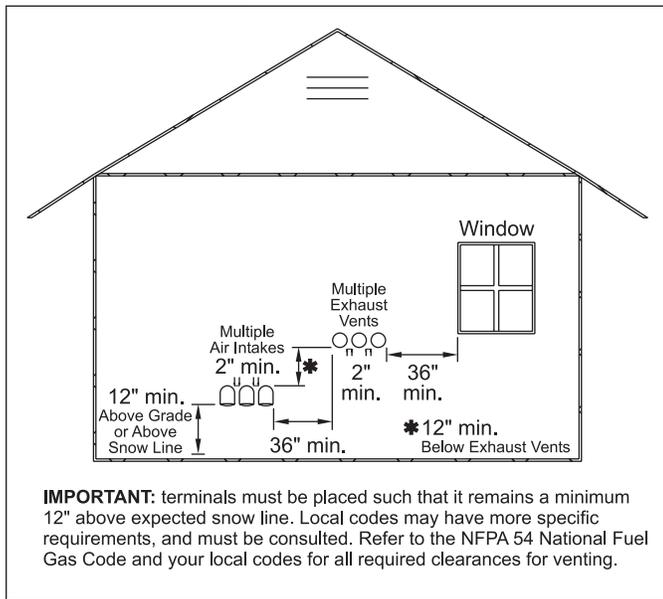

Figure 8. - Multiple Side-Wall Terminals, Air and Vent
As a result, two items listed in the Unpacking section (Figure 8) are not included with NeoTherm units for Canada (underlined):
6. Multiple vent kits should be installed such that the horizontal distance between the outlet group and the inlet group is 36" (90cm). (See **Figure 8**.)